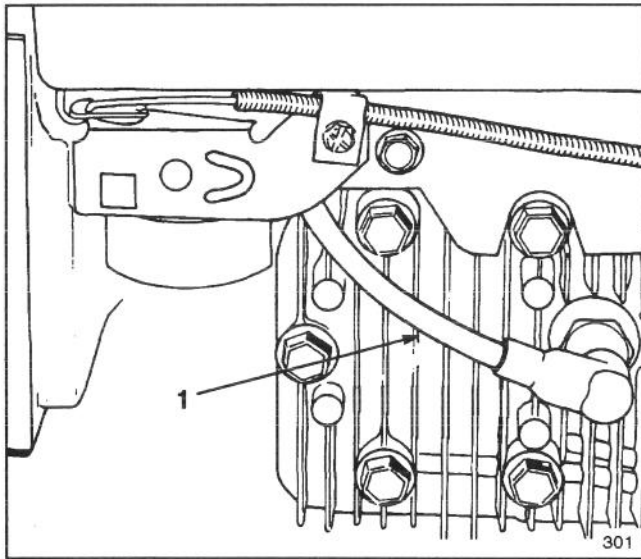

Figure 17
2. Push spark plug wire onto spark plug (Fig. 17).
1. Stop engine and pull wire off spark plug (Fig. 17).
1. Stop engine and wait for engine to cool. Pull wire off spark plug (Fig. 17).